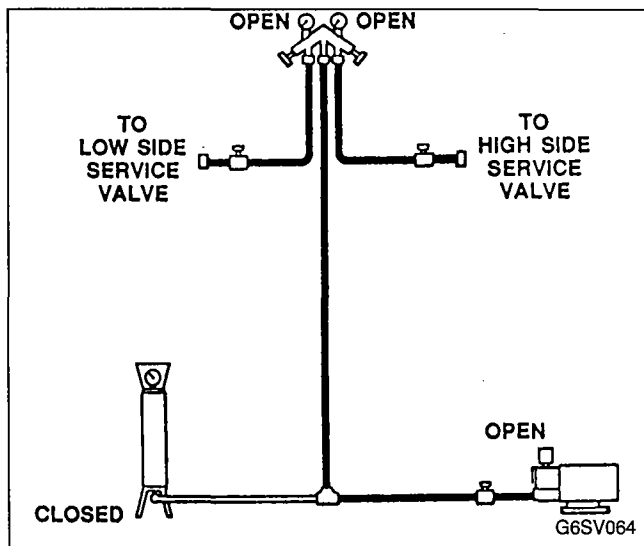

FIGURE 66. EVACUATION OF SELF-CONTAINED SYSTEMS
Connect manifold gauges, dial-a-charge (or weigh-in method), and vacuum pump to ice machine, Figure 66.
2. Open (backseat) high and low side ice machine service valves. Open vacuum pump valve. Open high and low side on manifold gauges. Refer to Figure 66.